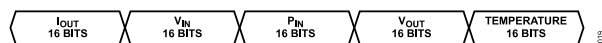

Figure 60. Output Data Format
- ▶ No header or ID information required. The 80-bit data format is fixed regardless of ADC sampling selection (see Figure 60).